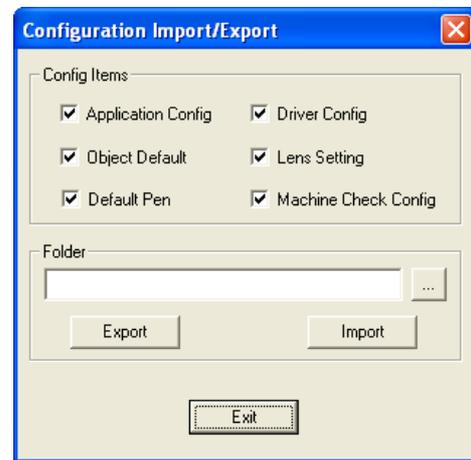

Fig. 1.1.37
1. Click on “File” → “Configuration Import/Export” to bring out dialog seen as fig. 1.1.37.